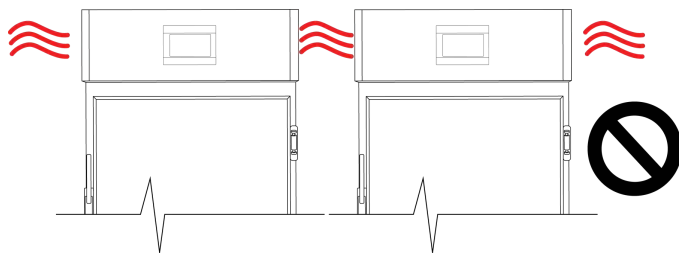
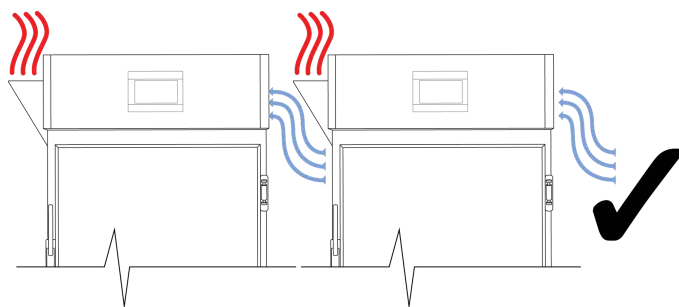

Fig 2. TRH cabinets without Deflectors
Fig 3. TRH Cabinets with deflectors
If there are multiple cabinets nearby, heat issues can occur because of the air flow direction. Essentially, one cabinet can heat the next, which then affects performance. Thermoline can supply deflectors to alleviate this issue if unavoidable (Fig 2 and 3).
- (Fig 2). If this is unavoidable please contact Thermoline as Air Deflectors can be supplied (Fig 3).